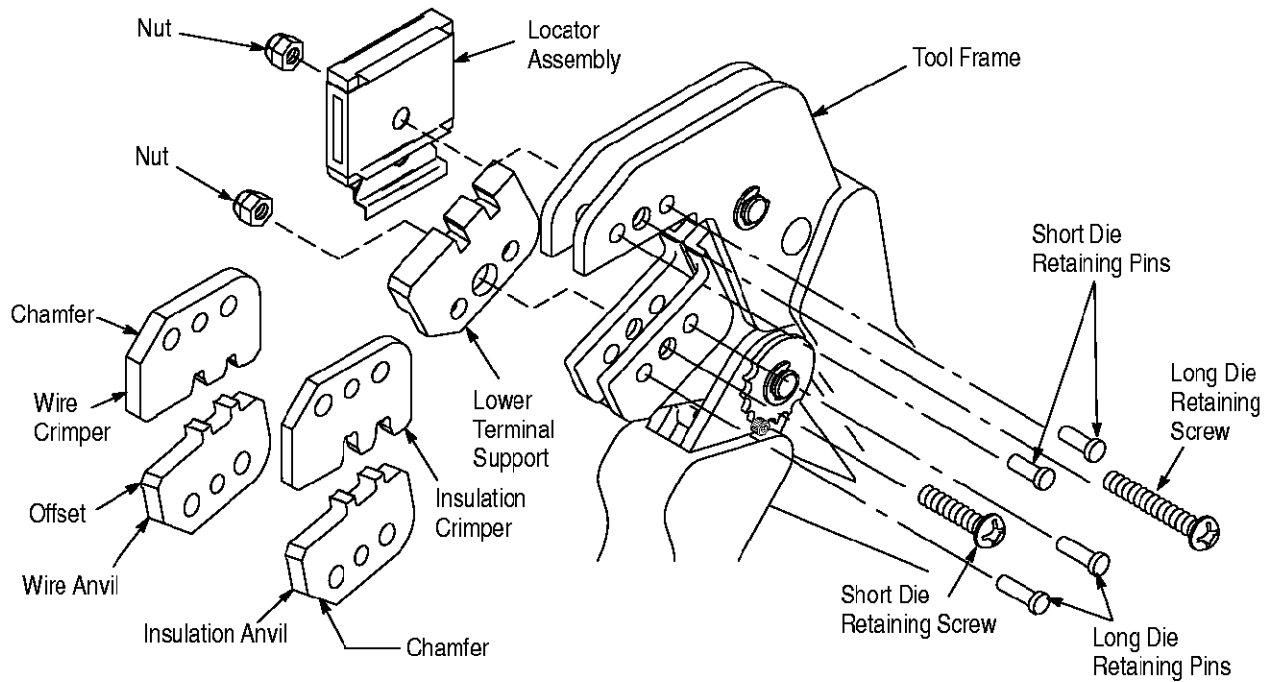

Figure 2
**3. INSTALLATION AND REMOVAL OF DIE SET, LOCATOR ASSEMBLY, AND LOWER TERMINAL SUPPORT (Figure 2)**